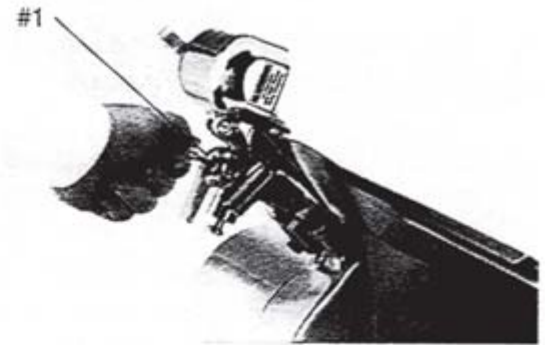

Figure 20-1
1. Pull out Knob #1 (Fig. 20-1) and swing sharpener into position for use.